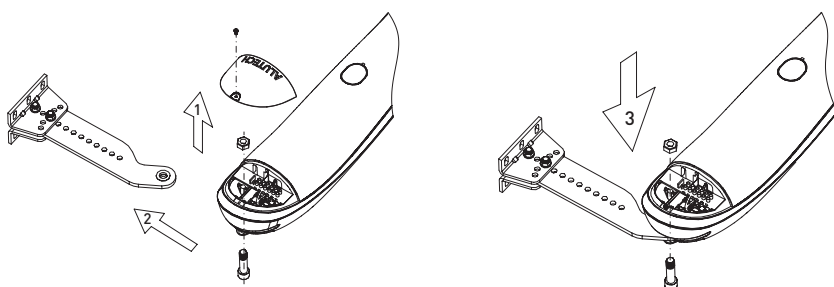
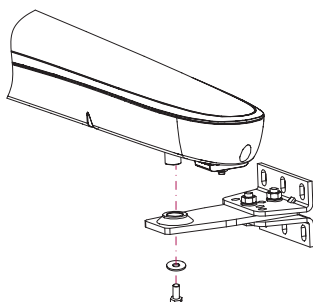

Figure 12. Mounting the drive on a rear fitting
Figure 13. Mounting the drive on a front fitting
- mount the drive on the rear (*fig. 12*) and front (*fig. 13*) fittings. Prior to mounting the drive on the front fitting, lubricate the fitting surface of its connector with grease. To mount the drive on the front fitting, release the drive (section '4.3. Manual release') and move the leaf manually.